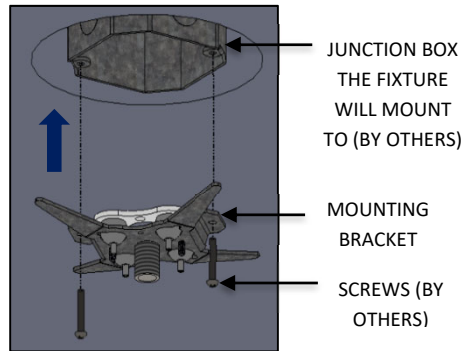

FIG. 17 – MOUNTING BRACKET ASSEMBLY INSTALLATION
7. Assemble the MOUNTING BRACKET ASSEMBLY to the JUNCTION BOX the fixture will mount to (by others) with screws (by others) as shown in FIG. 17 below.